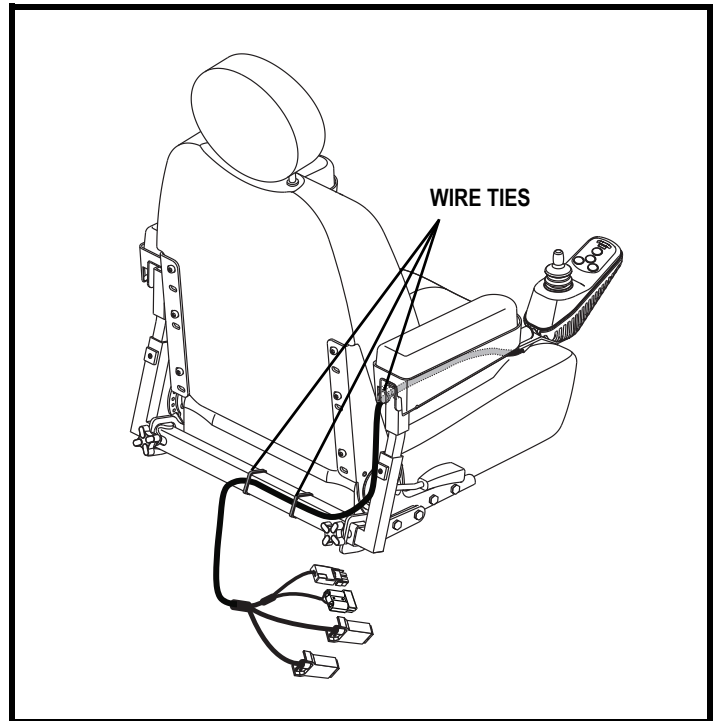

Figure 13. Controller Harness Routing
11. Secure the controller harness to the armrest receiver with wire ties. See figure 13.